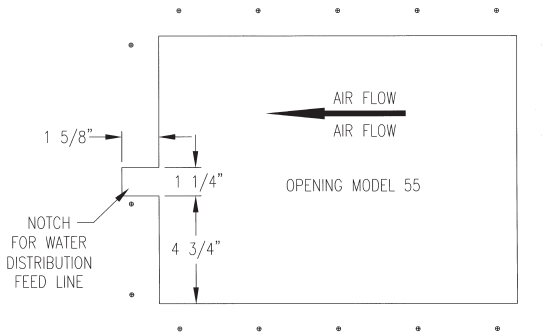

FIGURE 10: Model 55 Opening
2. Mark and drill two or three of the mounting holes 7/64" (0.28 cm) in diameter, and temporarily attach the mounting frame with #8 sheet metal screws. Mark the remaining holes and center the opening, as shown in Figures 10 (**Model 55**) and 11 (**Model 86**), below.
NOTE: When mounting **Model 55**, an additional notch is required as shown in Figure 10 (page 10). Measure and mark as indicated, and cut out this section.